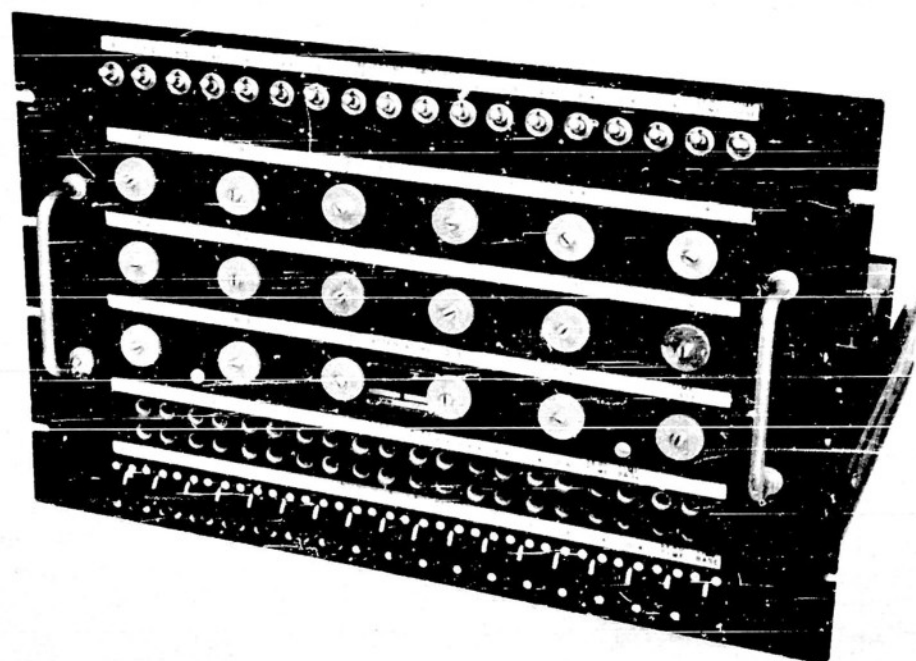

Figure 14 - Oscilloscope Control Panel
2.13 Oscillograph Control Panel See Figure 14